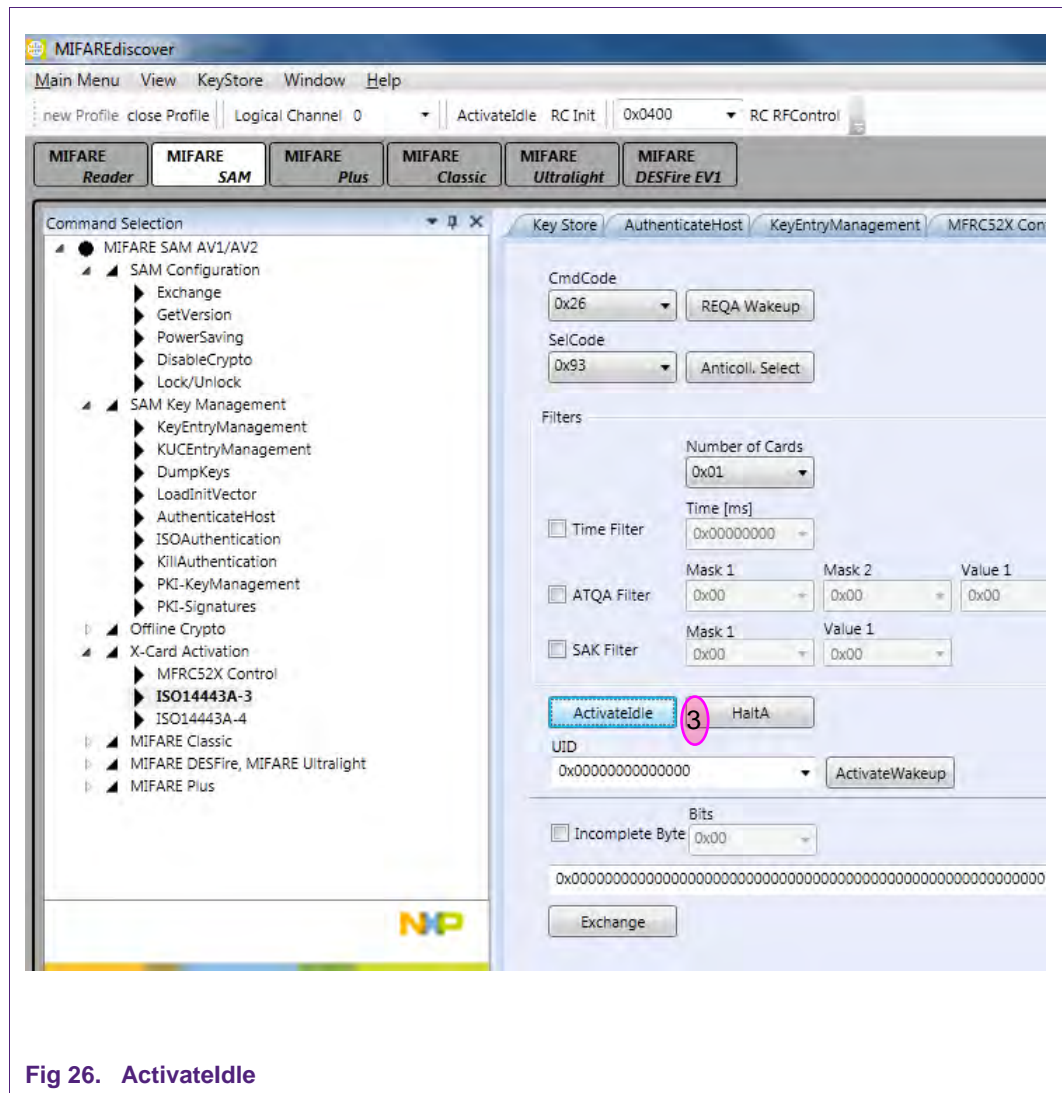

Fig 26. Activateldle
3. Activateldle to activate the MIFARE DESFire EV1 card to ISO/IEC14443 part 3 (shown in fig. 26).